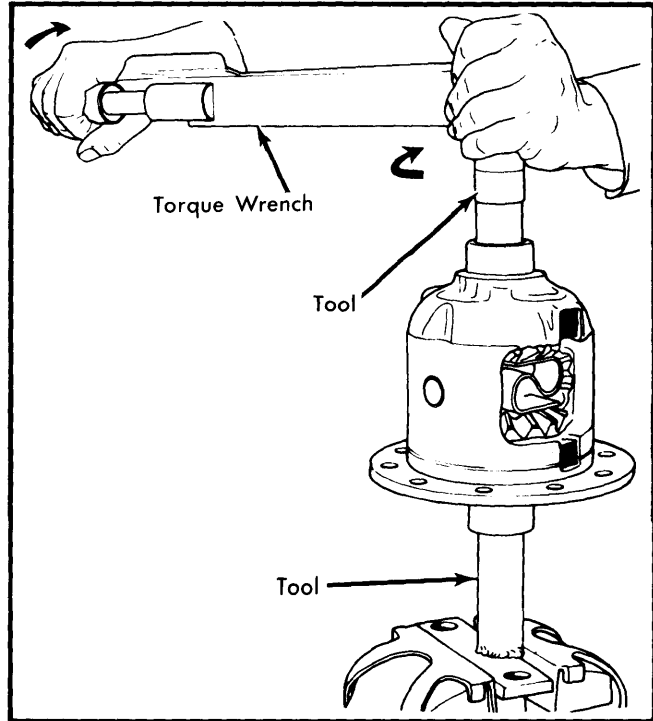

Fig. 6 Bench Torque Check
9) Before installing differential in case, a bench torque check must be made. Install suitable tools (T59L-4204-A) or equivalent. See Fig. 6. Check the torque required to rotate 1 side gear while the other side is held stationary. The initial break-away torque, if original clutch plates are used, should be no less than 30 ft. lbs. If new clutch plates are used, break-away should be 150-250 ft. lbs. The rotating torque required to keep the side gear turning with new clutch plates may fluctuate.